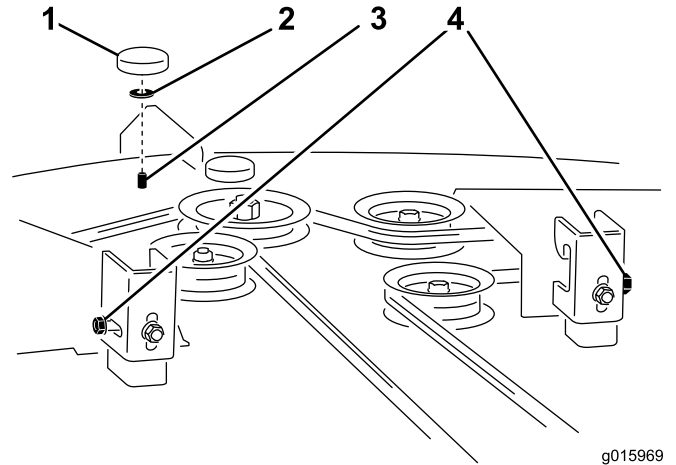

Figure 2
1. Loosen, **but do not remove**, the flange nut on the outside of each suspension bracket on the rear of the deck; see Figure 2.
2. Remove the knob, washer and bolt shown in Figure 2 and set them aside.